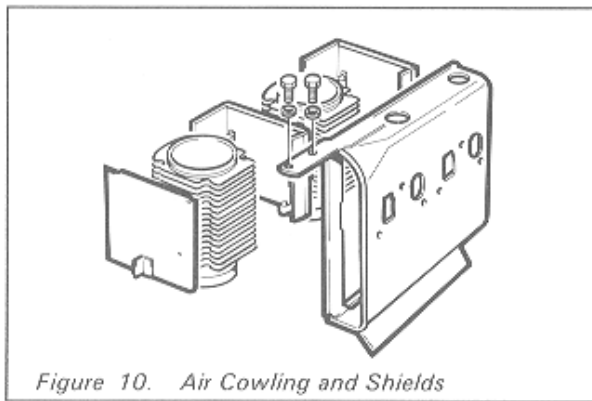

Figure 10. Air Cowling and Shields
*To prevent overheating and possible seizure, due to incorrect positioning of the cowling and shields, extreme care must be taken to ensure their respective positions are noted; refer to Figure 10.*